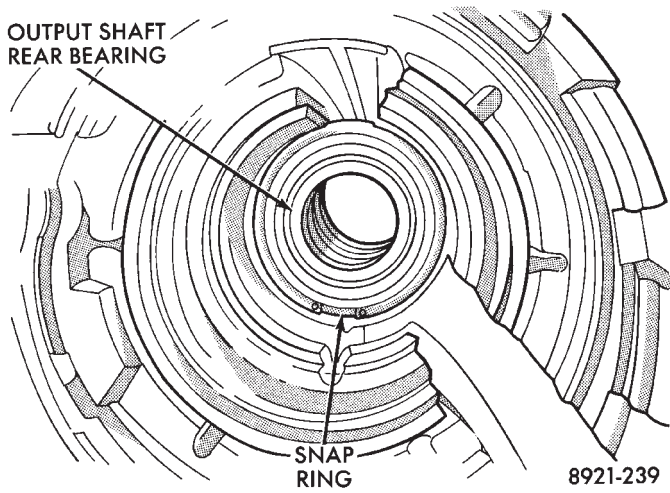

Fig. 15 Output Shaft Rear Bearing And Snap Ring Location
(16) Remove output shaft rear bearing snap ring (Fig. 15). Remove snap ring with long jaw internal type snap ring pliers. Or, rotate snap ring until one end is adjacent to notch in case. Then unseat ring with long flat blade screwdriver.
(17) Remove rear bearing by tapping overdrive case on wood block to dislodge bearing.